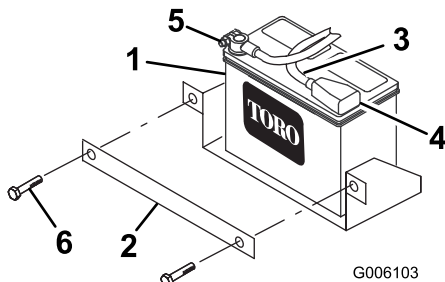

Figure 5
9. Slide the battery into the machine and secure it with the clamp and fasteners removed previously (Figure 5).
10. Using the bolt and nut supplied with the battery, connect the positive (red) cable to the positive (+) battery post (Figure 5). Slide the rubber cover over the battery post.
11. Using the bolt and nut supplied with the battery, connect the negative (black) cable to the negative (-) battery post (Figure 5).